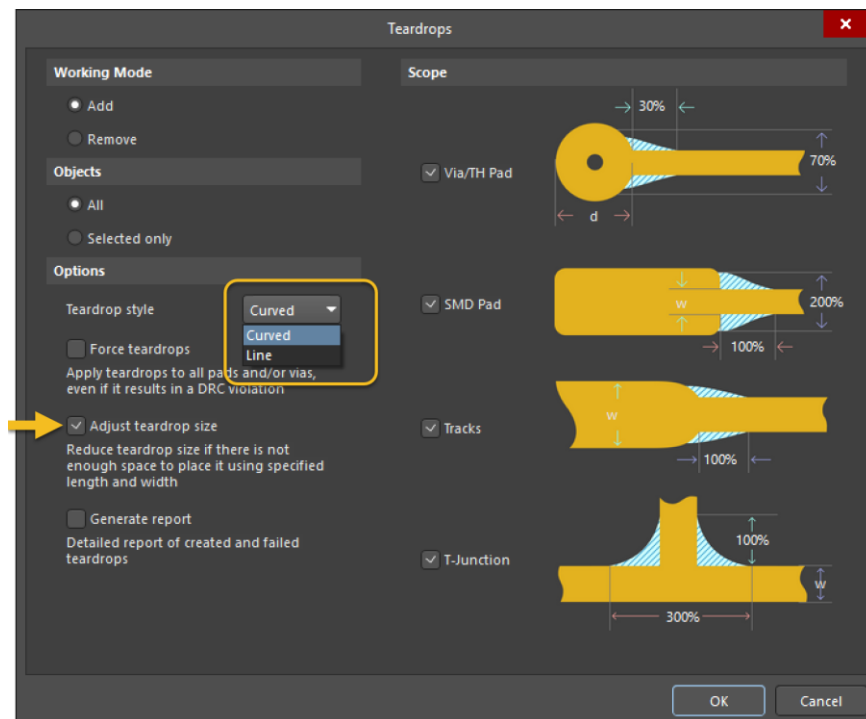

Figure 2. Teardrop Options Dialog
7. Set the *Teardrop style* dropdown menu to **Curved**, as shown in Figure 2 below. This will create arc teardrops on all applicable objects such as Vias, SMD Pads, Tracks, and T-Junctions.
8. At the *Options* dialog, make sure to enable **Adjust teardrop size** and then disable all other options. This will be revisited later. See Figure 2 below.